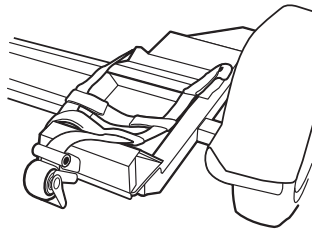

Figure 11
- Place the end of the tire strap through the spool, then tighten the tire strap as far as the ratchet allows (Figure 11).